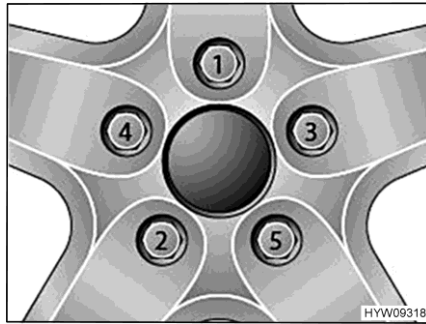

Fig. 103 Tightening the wheel nuts or wheel bolts cross-wise
- Tighten the wheel nuts or wheel bolts in the order shown in Fig. 103. In order to do this, use a torque wrench and comply with the specified tightening torque (see section 14.5).
- Check regularly that the wheel nuts or wheel bolts are firmly seated. Re-tighten the wheel nuts or wheel bolts of a changed wheel after 50 km (30 miles). While doing so, proceed in the order shown in Fig. 103.
- When using new or newly painted rims, re-tighten the wheel nuts or wheel bolts once again after approx. 1,000 to 5,000 km (600 miles to 3,000 miles). While doing so, proceed in the order shown in Fig. 103.